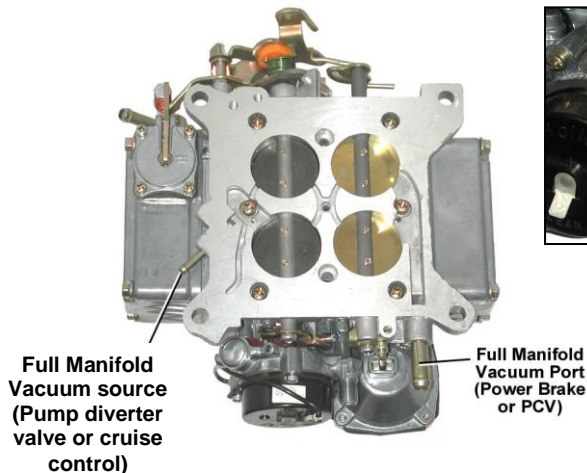

Figure 2
4. Reconnect the appropriate vacuum hoses to the carburetor. **Be sure to plug any vacuum sources not used (Figures 2 and 3).**